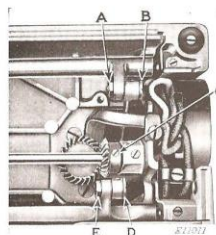

FIG. 29. FEED DOG ADJUSTMENT
When it is necessary to raise or lower the feed dog, remove the bottom cover plate and loosen the nut (A, Fig. 29) on the end of the feed lifting eccentric screw (D, Fig. 29). Turn the eccentric screw (D) until the high throw of the eccentric is toward the rotary hook shaft gear (C, Fig. 29). When the eccentric screw (D) is in this position, the top of the feed dog teeth will be at the correct height above the throat plate. Be careful not to adjust the feed dog low enough to strike the hook when the feed is in reverse and when the longest stitch is being used. Then securely tighten nut (E, Fig. 29).
The feed dog should be positioned in the slots of the throat plate so that it will not come in contact with the throat plate at either end of the slots during its travel. If the feed dog is not correctly positioned, remove the bottom cover plate. Loosen the nut (A, Fig. 29) on the end of the eccentric screw (B, Fig. 29) and turn the screw so that the centre row of teeth will be close to the end of the feed dog slot nearest the needle hole in the throat plate, but not close enough to strike the end of the slot. The eccentric
screw (B, Fig. 29) is in correct position when the high throw of the eccentric is upward and away from the gear (C, Fig. 29) on the hook shaft.